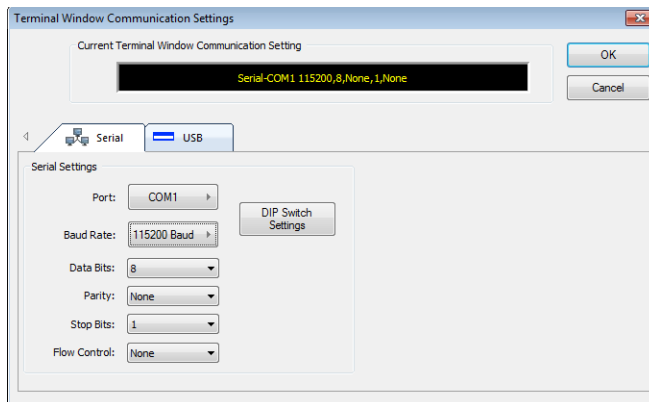

FIG. 138 NetLinx Studio - Terminal Window Communication Settings dialog
3. Select Tools/Terminal Session (if you use another terminal emulation program, be sure to set the COM port and the communication settings per Step 4). The Terminal Window Communication Settings dialog opens (FIG. 138):